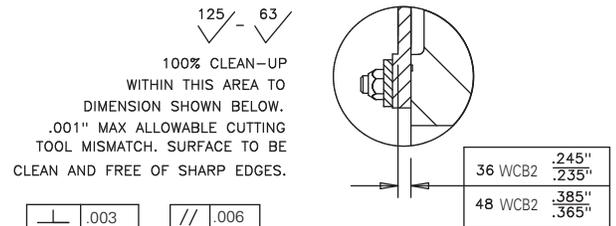

Figure 18
- 4.6.15 Machining of the wear surfaces is required for 36WCB2 and 48WCB2 tensioner/brake assemblies after replacement of the wear plates or the adjoining friction material. See Figure 18 for machining specifications. Clean all wear surfaces after machining to remove any residual contaminants.